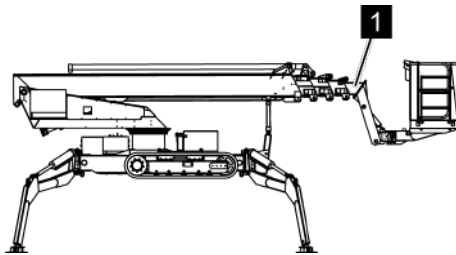

Fig. 157: Securing the boom
2. ➤ Extend the telescopic arm so far that the front boom (Fig. 157/1) can be secured with a belt slip or a trolley.